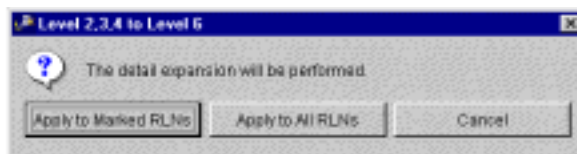

Figure 5.198 Level 2,3,4 to Level 6 Window
4. On the Detail Expansion menu, click the Expand Level 2,3,4 to Level 6 Using TARGET command. The Level 2,3,4 to Level 6 window opens (Figure 5.198).